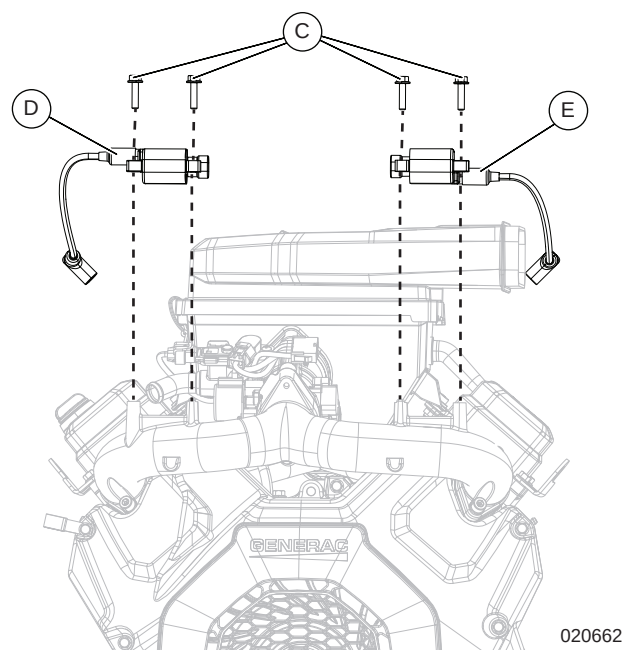

Figure 7-3. Remove Ignition Coils From Intake Manifold
2. See Figure 7-3. Remove bolts (C) retaining ignition coils (D, E) to intake manifold and remove ignition coils.